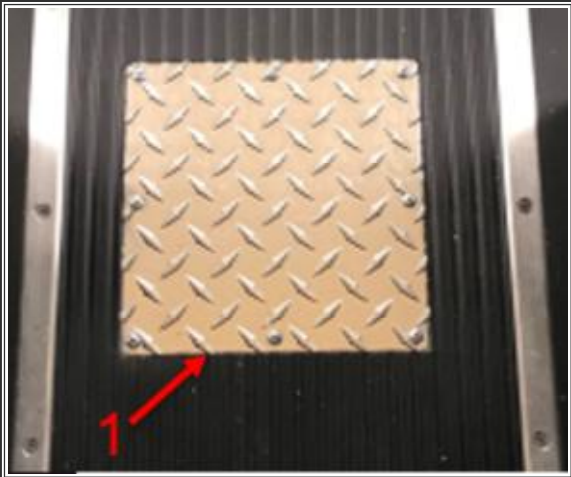

Figure 2: Fuel sending access plate cover
1. Locate fuel sending access plate cover in center of the aisle, see figure 2 above.